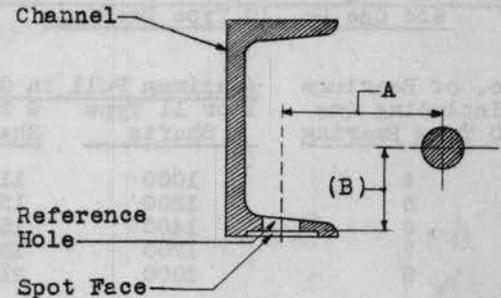

Fig. 1
(1) Fig. 1 (A) - The perpendicular distance between the centerline of the vertical drive shaft and the centerline of the reference hole is 2-11/64" ± 1/32".
(2) Fig. 1 (B) - The perpendicular distance between the spot face of the channel and the centerline of the vertical drive shaft is 1-1/4" ± 1/32" measured at a point just beneath the bearings.